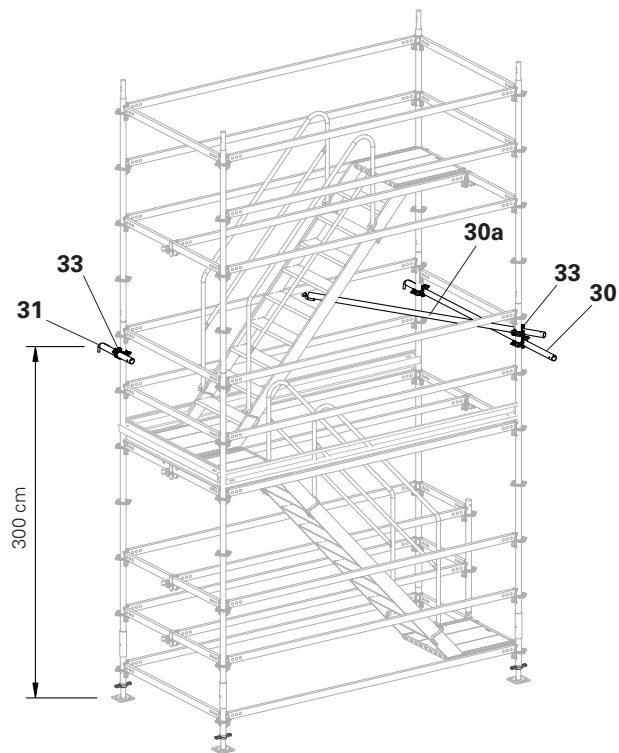

Fig. B6.01
3. Fix Wall Ties to the wall, e.g. with ring bolts and wall inserts, or equivalent connection. (Fig. B6.01)